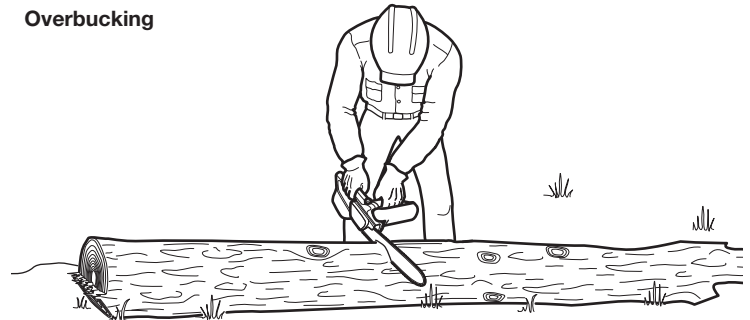

Fig. 19
When logs are supported along the entire length, extra care should be taken to make sure the saw chain does not contact the ground or other support structure (Fig. 19).
1. Begin cutting from above, with the bottom of the saw chain against the top of the log (Fig. 19).